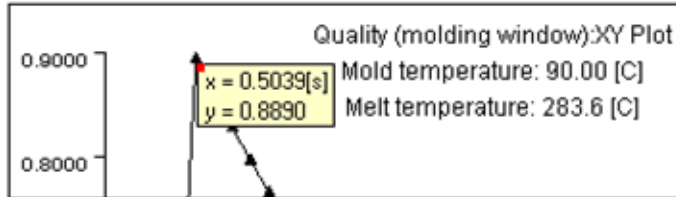

Figure 97: Query on quality plot
- Click the **query** tool icon,  to select the **highest quality** point on the XY graph and note the x value. An example is shown in Figure 97.
- With the example in Figure 97, the new recommended conditions include a mold temperature of 90° C. a melt temperature of ~283° C. and 0.5 seconds fill time.